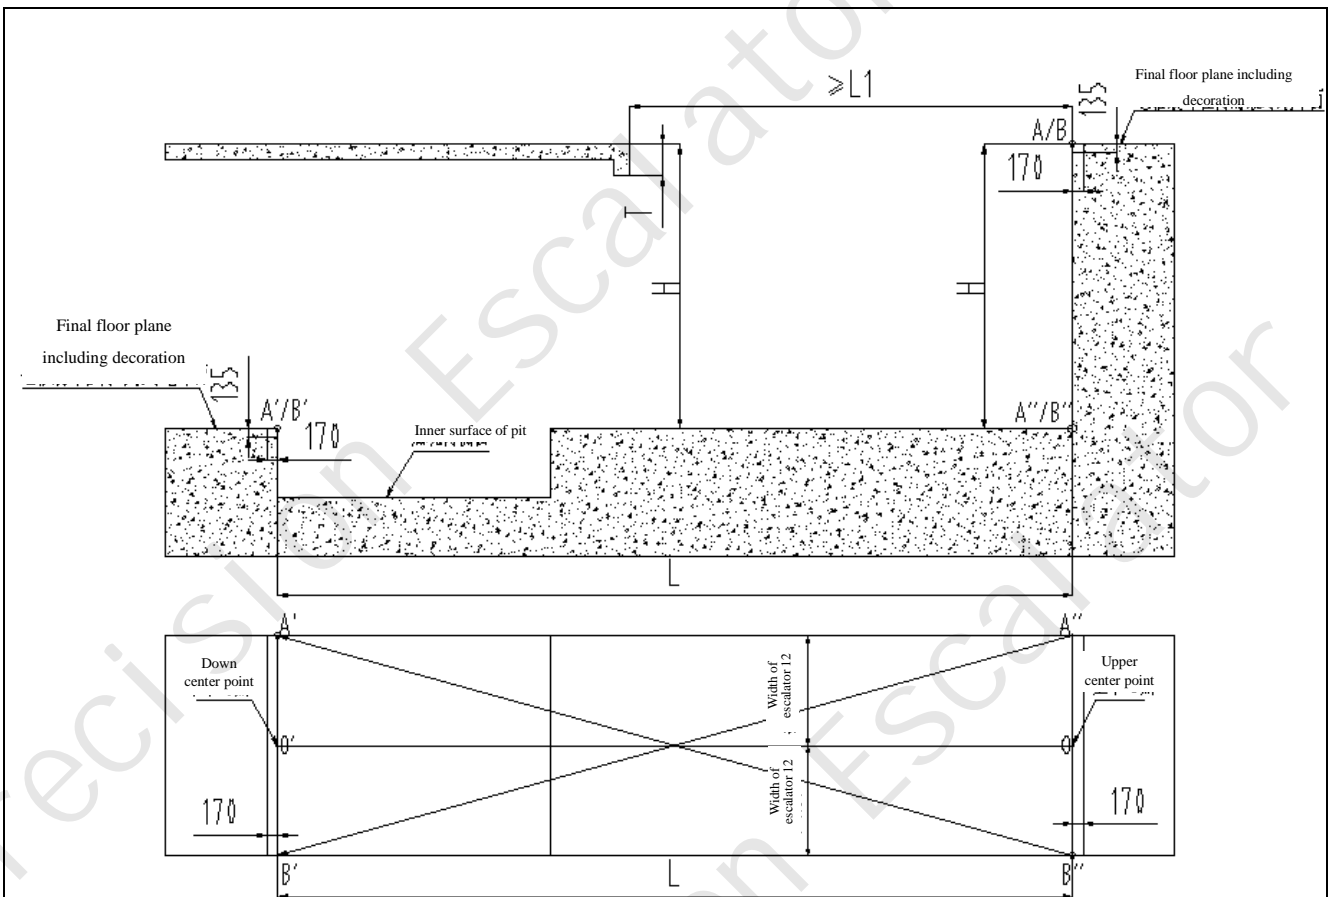

Figure 2 Repitition Measurement of Escalator's Civil Engineering
a. Repetition measurement should be conducted for level supporting point of the upside and downside of escalator. Re-check whether the correct leveling supporting distance required by inclined angle of escalator accords with requirement of design. Step size, embedded parts, and the level of two horizontal anchor meets the installation requirements. If it does not meet, relative unit should take measure timely. See details in the Figure 2 below
f. Find out the installation central point 0,0' of the whole escalator in the separation distance of the upper and lower beams. Mark the installation center well; and mark at A. B. A'.B' well on the center of the upper and lower beams (width of the escalator/2). The measured width 170mm+10/0mm of steps of the upper and lower beams should accord with the requirements of the dimensions of the construction layout drawing (see Figure 2) to ensure that there is no difference on the horizontal distance of the width when the escalator is installed. The allowed error of the civil engineering should be less than the requirements of the dimensions of the civil engineering;
g. The surface of the inner side of the upper and lower beams (near the escalator) must be vertical straight in the height scope of 1200mm. Embossment on the wall surface is not allowed (see Figure 2);